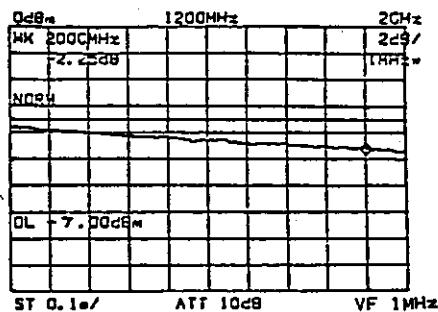

Figure 4-37 Reading the Characteristic of Waveform from the Marker Display
- (8) When the marker is displayed, the relative value between the marker point on the measured waveform and display line can be read directly in the marker level (Figure 4-37). To clear the NORMALIZE mode, press the SHIFT  and  keys again.